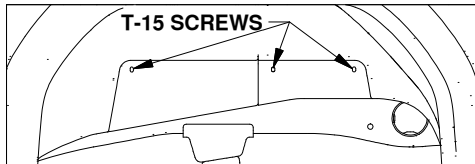

Figure B1: View looking into driver side wheel well.
1. **Un-attach the wheel well liners.** Check for the presence of flexible wheel well liners in the truck wheel wells. If present, three T-15 Torx screws will need to be removed so that the liners can be folded up and allow access to the frame, see Figure B1. Retain screws for later re-installation.